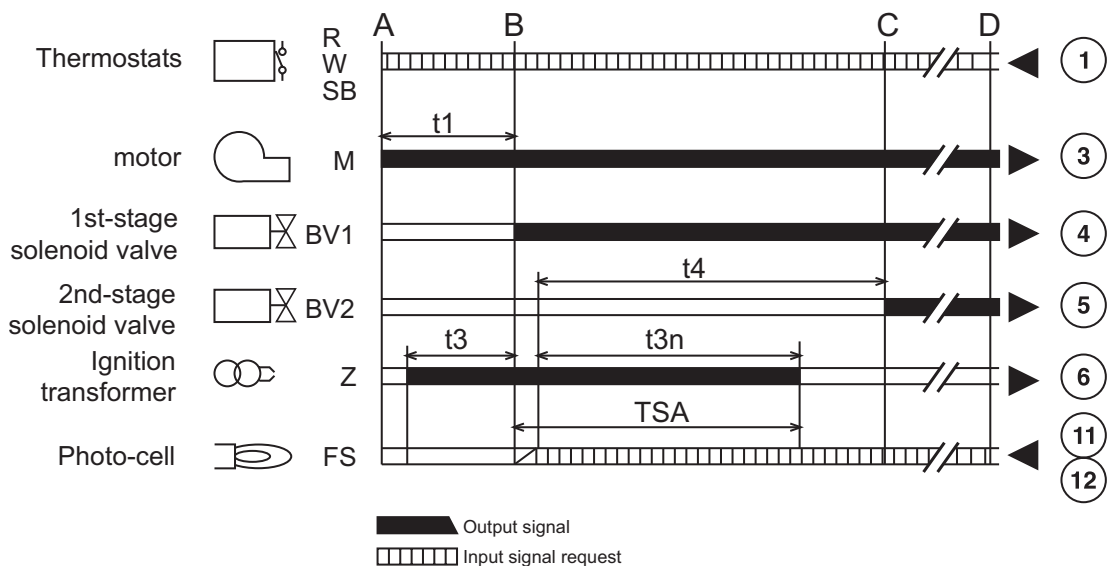

fig. 8
- Operation starts according to the diagram of fig. 8: